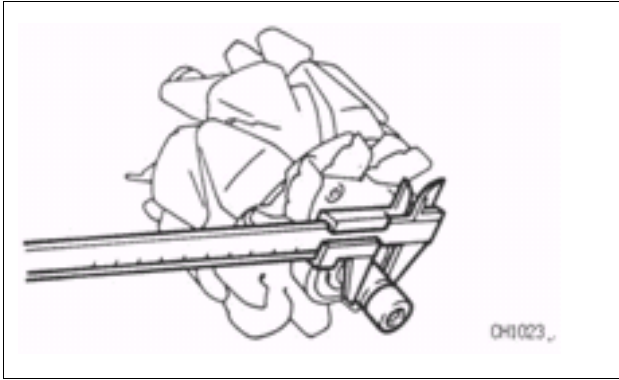

Figure 422
b. Measure the diameter of the slip ring with a dial caliper (see Fig. 422).